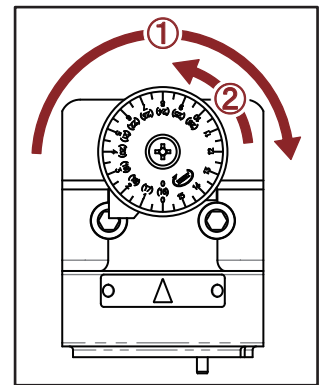
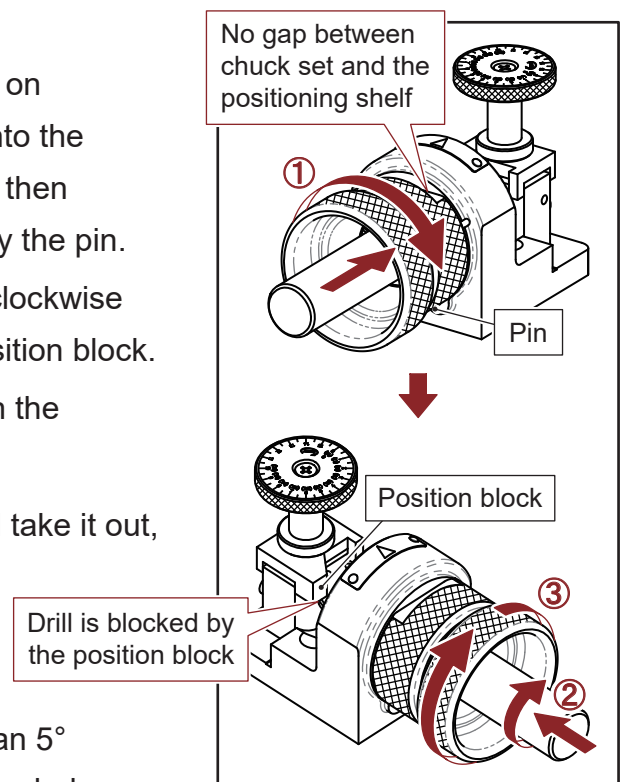
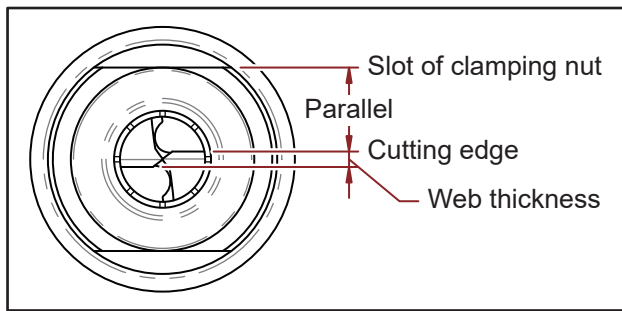

Fig. 8-1
Fig. 8-2
Fig. 8-3
1. Preset the scale of the positioning shelf. (Fig. 8-1)
- ① Turn it by clockwise to the end.
- ② Turn it by counterclockwise at "0".
3. Drill positioning (Fig. 8-2) :
- ① Align the slot of the clamping nut to the pin on the positioning shelf, insert the chuck set into the positioning shelf and fit them with no gaps, then turn the chuck set clockwise until it stops by the pin.
- ② Push the drill to the end and slowly turn it clockwise until the drill's cutting edge touches the position block.
- ③ Turn the collet holder clockwise and tighten the chuck set to secure the drill.
4. Gently turn the chuck set counterclockwise and take it out, make sure the drill's cutting edge is parallel to the slot of the clamping nut (Fig. 8-3).